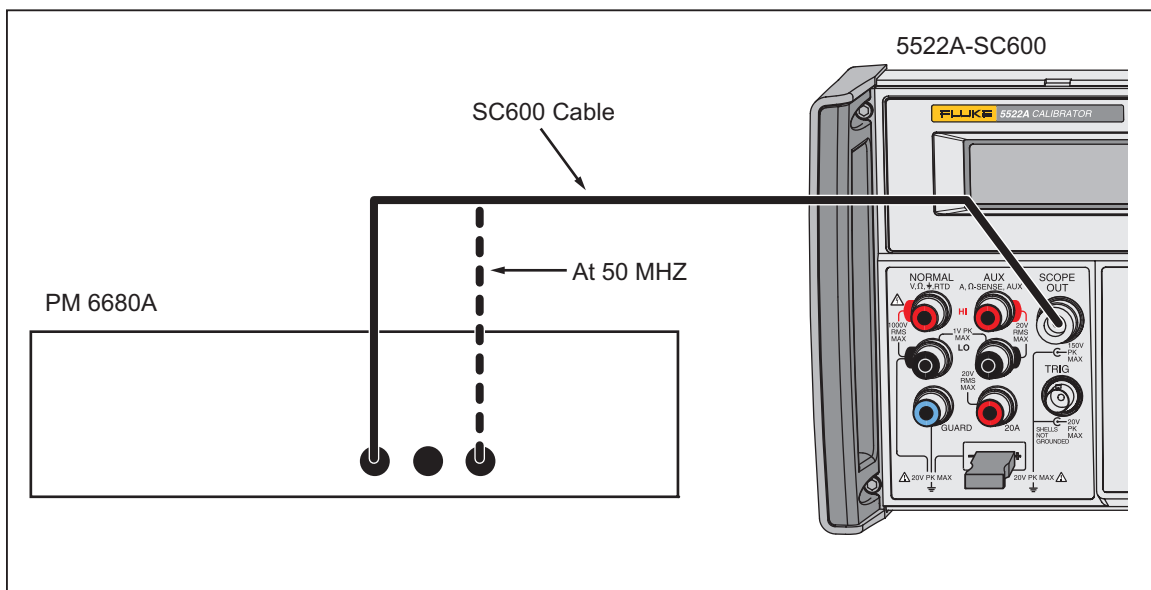

Figure 6-7. AC Voltage Frequency Verification Setup
4. Connect the SCOPE connector on the Calibrator to channel A of the PM 6680 with the output cable. See Figure 6-7.
1. Connect the equipment as shown in Figure 6-7.